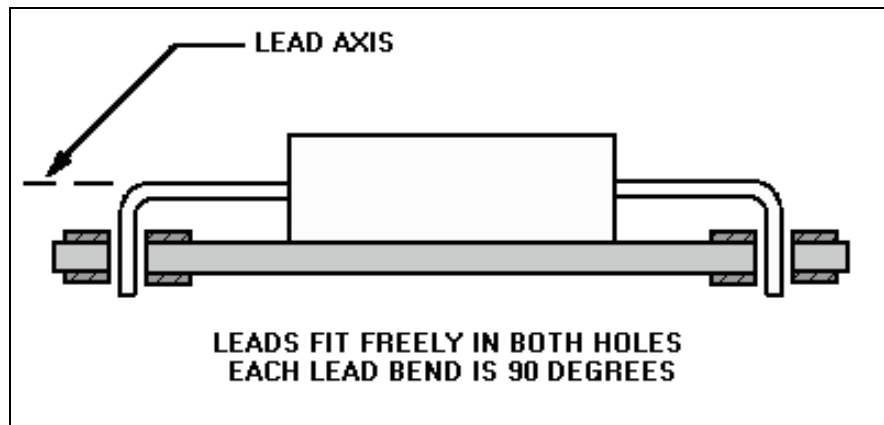

Figure 3-14.—Ideal lead formation.
- Leads must be approximately 90 degrees from their major axis to ensure free movement in hole terminations, as shown in figure 3-14.